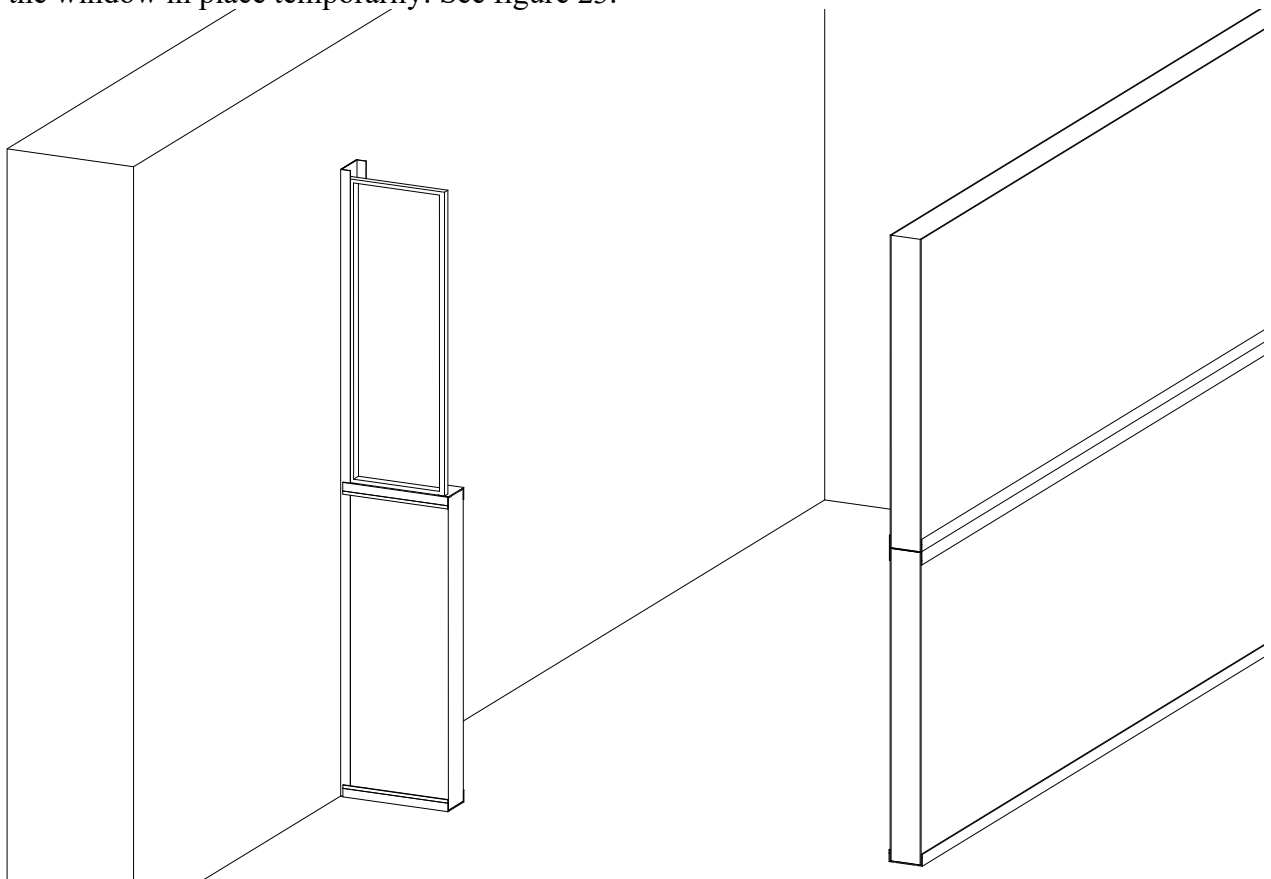

Figure 23
7. Place the window panel onto of the “A” channel from step 6. You must have a 2nd person to hold the window in place temporarily. See figure 23.